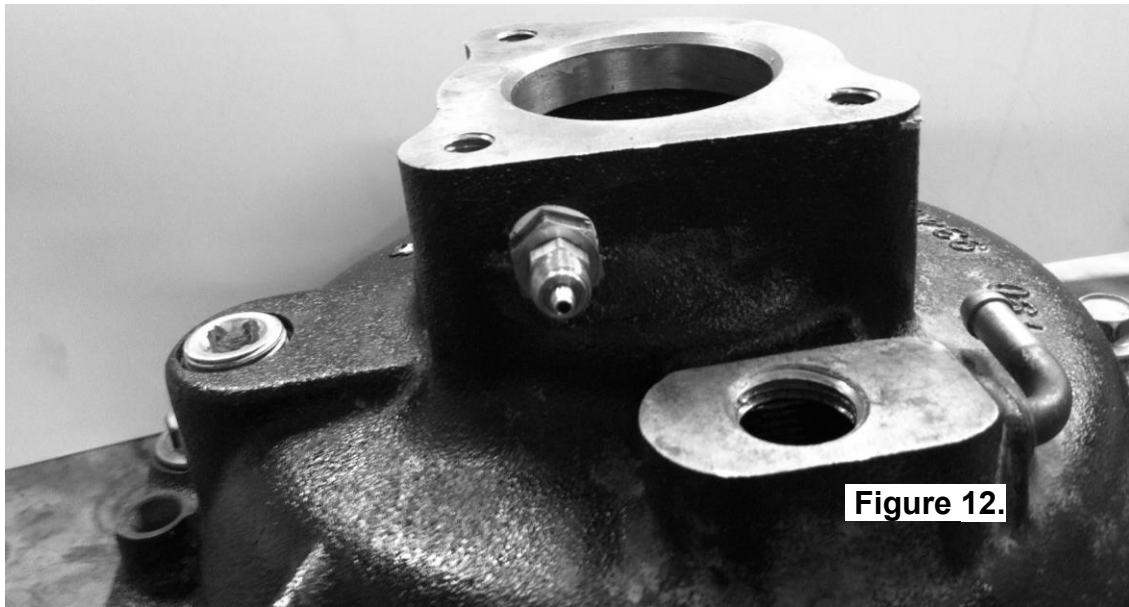

Figure 12.
- ☐ Position the seal housing so that the end of the seal housing tube goes through the center of the bulkhead port hole (Refer to Figure 12.).